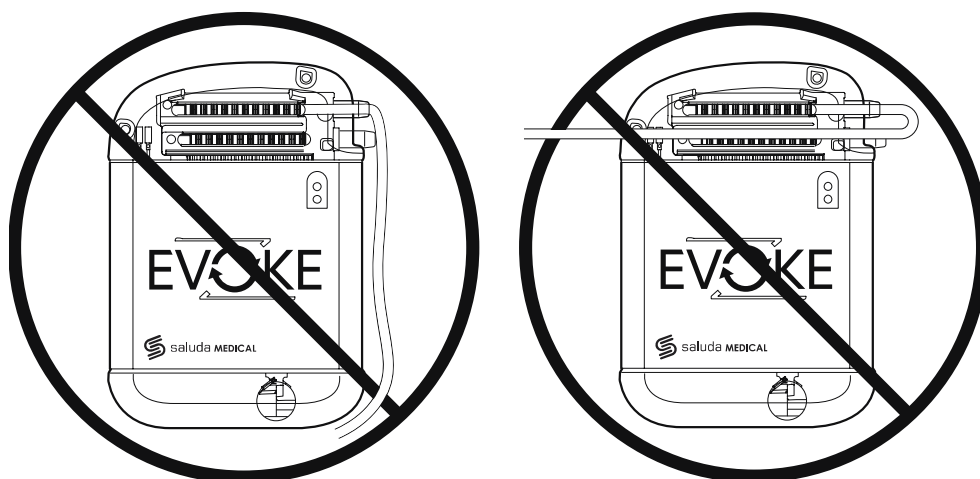

Figure 6.7: Examples where the lead has been bent at the port of entry of the CLS header. Take care to avoid this when creating the strain relief loop.
**Caution:** Ensure that the lead is not bent at the port entry of the CLS header (refer to Figure 6.7).